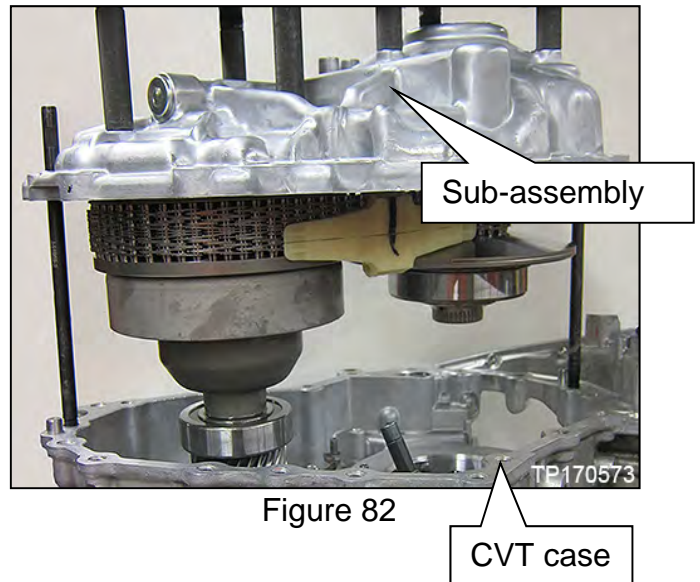

Figure 82
58. Raise the lifting fixture to remove the “side cover with pulleys and chain sub-assembly” (sub-assembly) from the CVT case (Figure 82) and set aside.